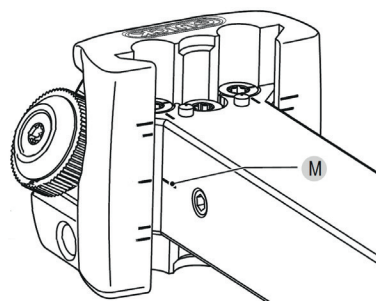

Fig. 2: Setting the centre height
For adjustment of the centre height, the mark on the shank (M) must be aligned with the marks on the tool head (Fig. 2). It must be ensured that the appropriate mark is chosen for the relevant shank dimension.